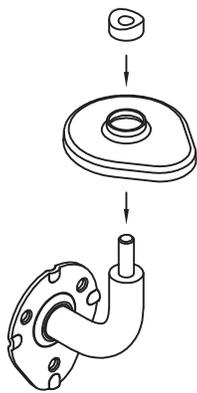

fig 4
- Step 5:** Slide a flange cover loosely over the bracket base plate and rod assembly. Slide a shim over the threaded stud with the "cup" facing upward, see **fig 4**. Thread a bracket into each hole and tighten to align base plates in line with each other and parallel to the rail. Be sure cup of shim is seated properly against rail.